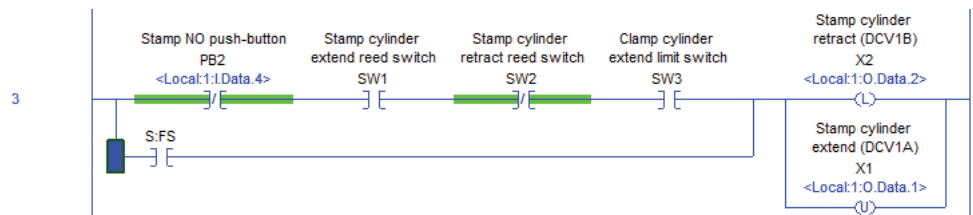

Figure 109. Rung 3 (stamp retract).
21. Enter the logic for this rung according to Figure 109. X2 will latch and X1 will unlatch if **all** of these four conditions exist simultaneously: